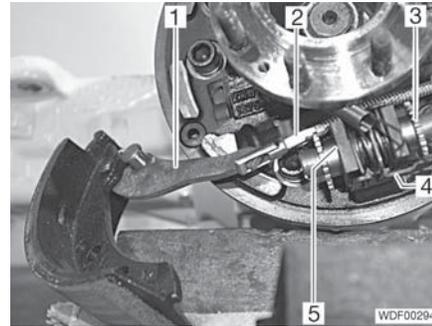

Fig. 264 Bowden cable attachment
- Unhook the hook (Fig. 264,1) from the Bowden cable (Fig. 264,2).
- Slightly grease the thread (Fig. 264,5).
- Raise the lock (Fig. 264,4) and rotate the adjustment wheel (Fig. 264,3) as far as possible clockwise.
- Hook the hook (Fig. 264,1) into the Bowden cable (Fig. 264,2).